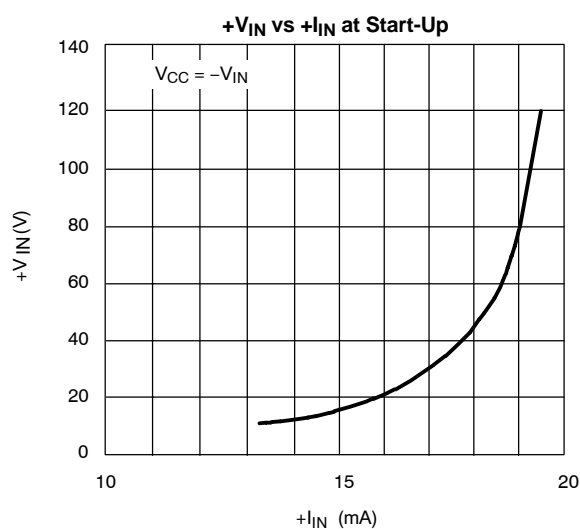

FIGURE 4.
**Note:** During start-up or when  $V_{CC}$  drops below 9.4 V the start-up circuit is capable of sourcing up to 20 mA. This may lead to a high level of power dissipation in the IC (for a 48-V input, approximately 1 W). Excessive start-up time caused by external loading of the  $V_{CC}$  supply can result in device damage. Figure 4 gives the typical pre-regulator current at start-up as a function of input voltage.